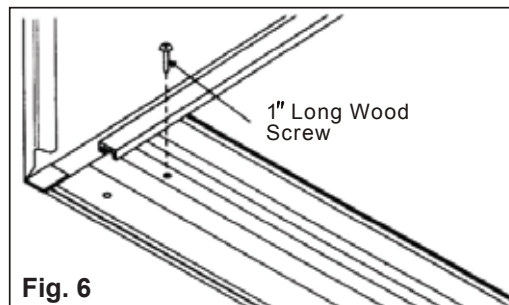

Fig. 6
4. Secure bottom rail to wooden frame with two large wood screws 1" (2.5 cm) long using the two holes in the bottom of the channel resting on frame. (See Fig. 6.)